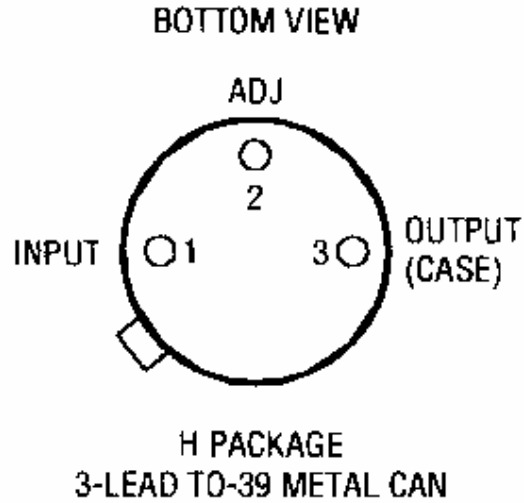
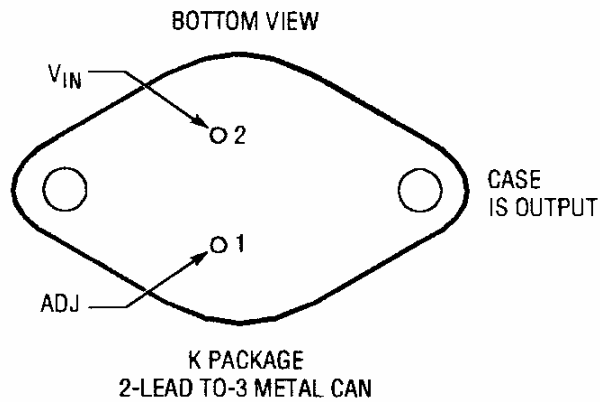

FIGURE 7
FIGURE 8
- 5.7 Terminal Connections: The terminal connections shall be as specified in **Figure 7** and **Figure 8**.